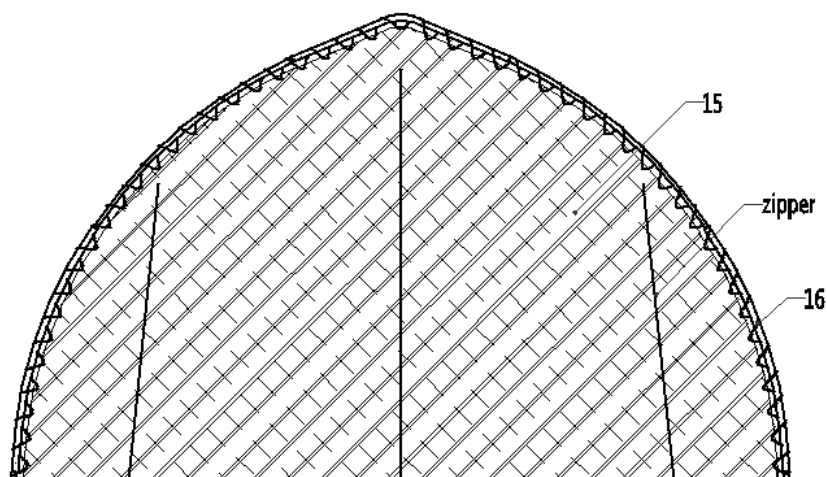

Figure 7
- Lift up front fabric panel (#15), starting from the center point of the frame (highest ridge point) use rope (#16) through the grommets to tie the panel to the truss firmly. Repeat the same step to install the rear truss panel (refer to figure 7).